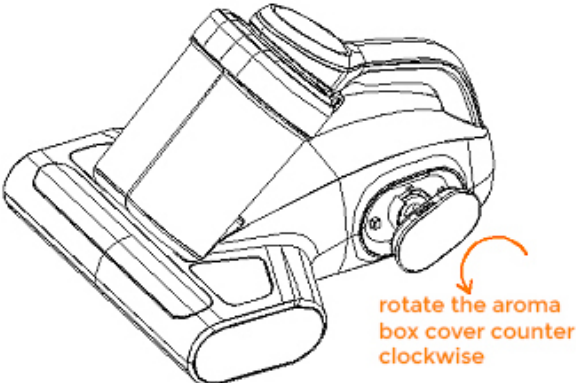

Fig.7
- 2. Rotate the aroma box cover counterclockwise (Fig. 7).